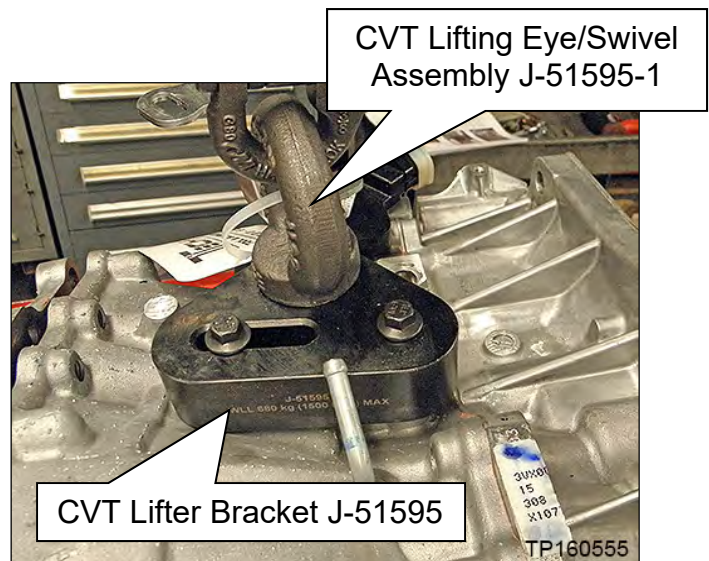

Figure 72
- CVT lifter bracket J-51595 and CVT Lifting Eye/Swivel Assembly J-51595-1 can be used for this step. See Figure 72.